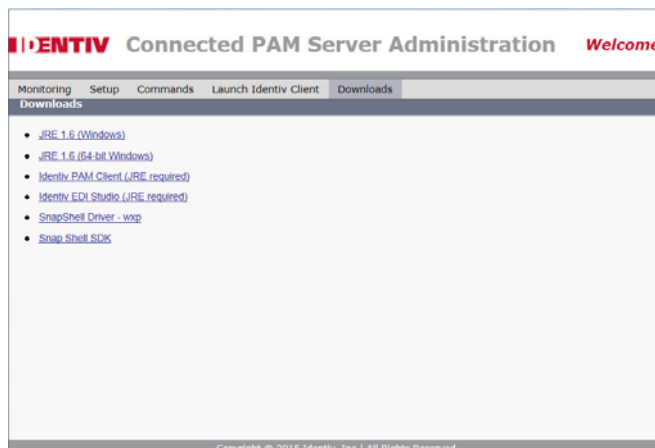

Figure 27: ICPAM Downloads Page
- Click the **Launch Identiv PAM Client** from the ribbon bar as shown in Figure 27